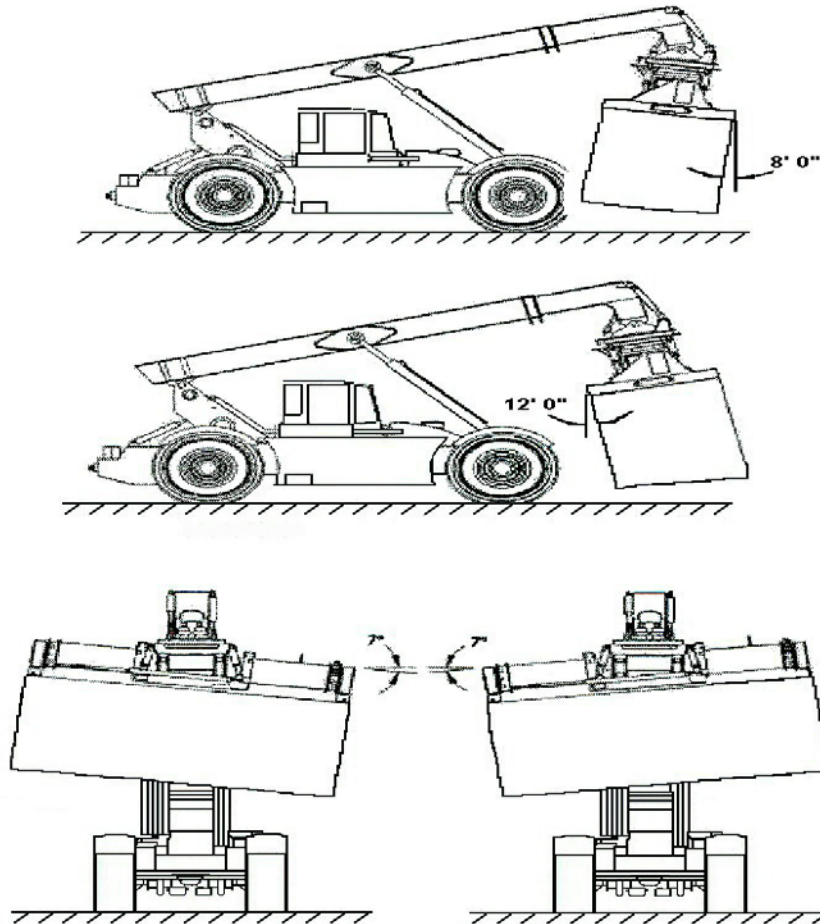

Figure 3-80
- g. Engage oscillation and tilt locks before driving with a load over rough terrain (see Figure 3-80).
- (1) Press to engage lock to secure the load position.
- (2) Press to release lock to allow the load to float.